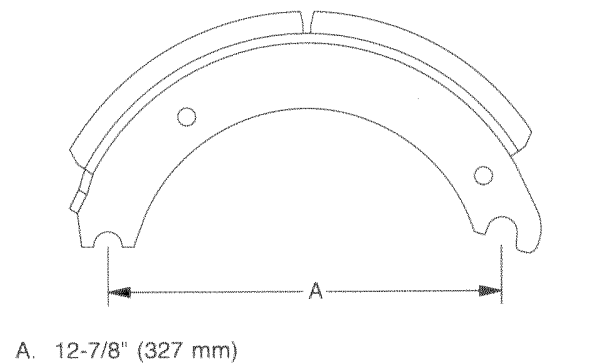

Fig. 1, Measuring the Shoe Span
5. Check the shoe span. Measure the distances between the centerlines of the anchor pin and the camshaft roller pin recesses in the shoe web. If the measurement is more than 12-7/8 inches (327 mm), replace the shoe. See Fig. 1. (This may vary from one manufacturer to another, check service Manual)